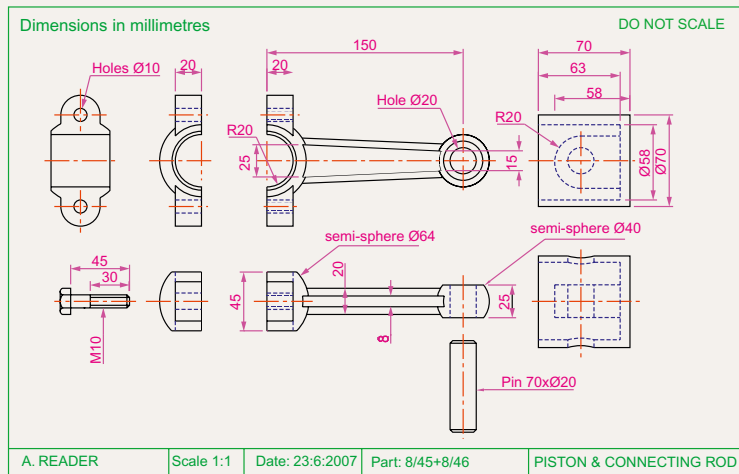
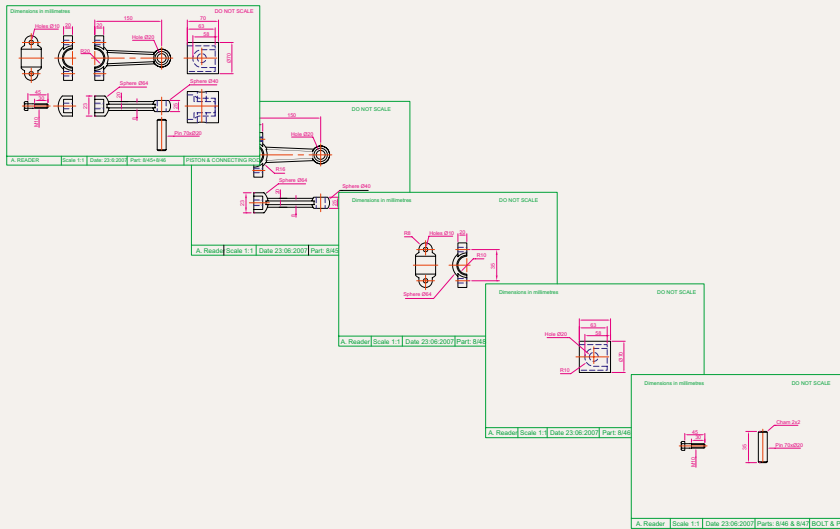

Fig. 11.15 Exercise 1 – exploded orthographic projection
Fig. 11.17 Exercise 1 – the five drawings in the sheet set
1. Fig. 11.15 is an exploded orthographic projection of the parts of a piston and its connecting rod. There are four parts in the assembly. Small drawings of the required sheet set are shown in Fig. 11.17.
Construct the drawing Fig. 11.15 and also the four drawings of its parts. Save each of the drawings in a **Layout1** format and construct the sheet set which contains the five drawings (Fig. 11.17).